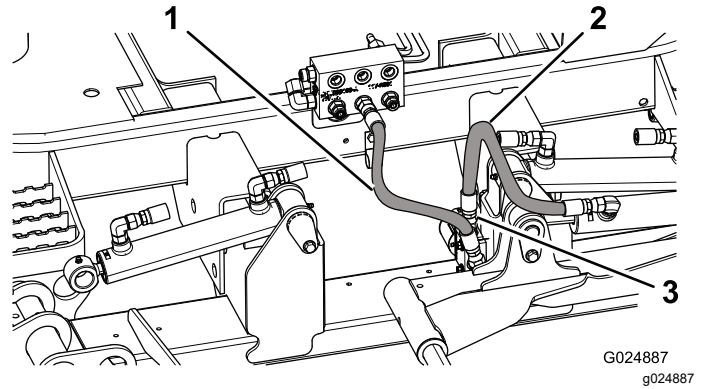

Figure 4
8. Route and install the end of the hose disconnected from the junction manifold fitting to the top (straight) fitting on the deck-lock manifold (Figure 4).
9. Route and install the new hose to the junction manifold and the 90-degree deck-lock manifold fitting (Figure 4).